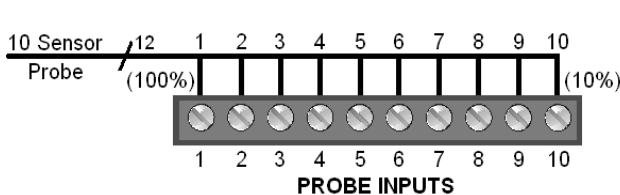
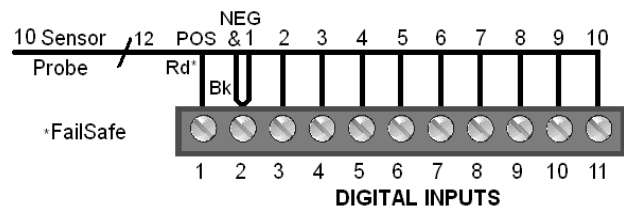

Figure 7 – Ten Sensor Probe Wiring (Excludes MultiSmart)
Figure 8 – MultiSmart Ten Sensor Probe Wiring
Connect as shown in *Figure 7* & *Figure 8* below. If the Fail Safe (FS) feature is not required or not present, leave the red and black wires disconnected and trim or cable tie out of harms way.